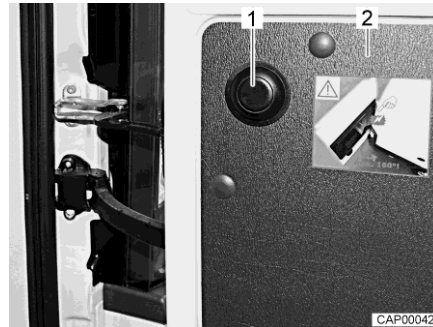

Fig. 13 Push button to release the limitation
- Open the rear door (Fig. 13,2) as far as it will go.
- Press the push button (Fig. 13,1), hold rear door and continue opening carefully.